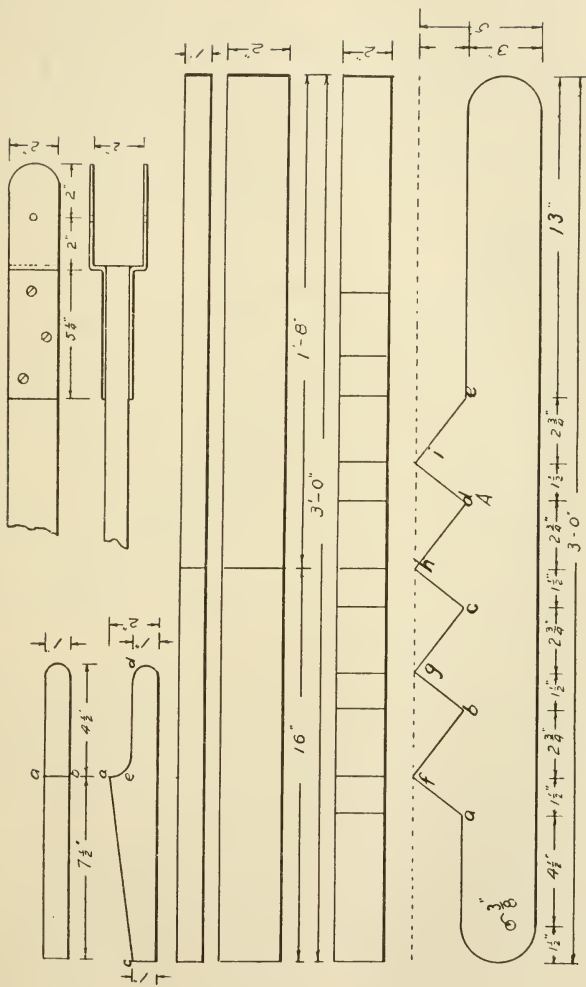

FIG. 60.—DETAILS OF WAGON JACK.
1. **Laying out, squaring, and planing.** — Plane *A*, Fig. 60, 5'' wide, 2'' thick, and 3' long. Set the gauge at 3'' and gauge on both surfaces from one edge. 6'' from one end, square a line across the gauged line. 4 $\frac{1}{4}$ '' from this line, square another line. Repeat this operation until 5 lines have been drawn. These lines locate points *a*, *b*, *c*, *d*, and *e*. 1 $\frac{1}{2}$ '' from the first line *a*, square another line, and at the same distance
Lay out the handle 1" thick, 2" wide, and 12" long. $7\frac{1}{2}$ " from one end square a line *ab* across one edge. Lay off a point *c* on the same end 1" from the edge; connect this point with the line squared across the edge. From *a*, square a line across the side (Fig. 60).